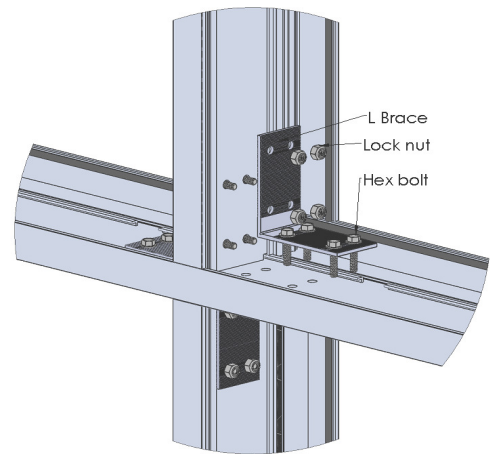

Figure 7:
3. Install L Braces into the intersecting TDL bars using the provided Hex bolt and Lock nuts (sizes 1/4" and 3/8" respectively) into the pre-drilled holes and tighten down (Figure 7).